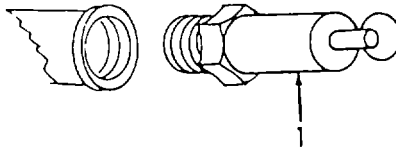

Figure 3-29. Safety Valve, Removal.
- a. *Removal.* Unscrew and remove the safety valve (1, Figure 3-29).